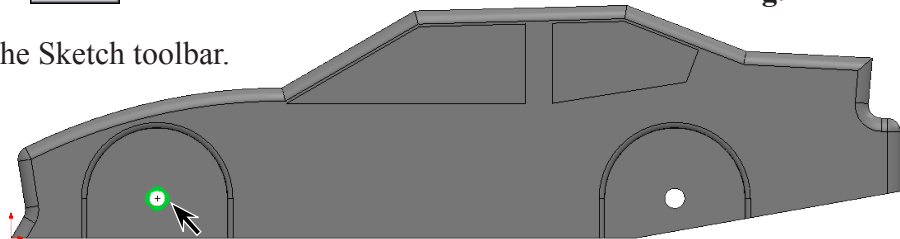

Fig. 75
Step 3. Click to select the **edge of front axle hole**, **Fig. 75**.